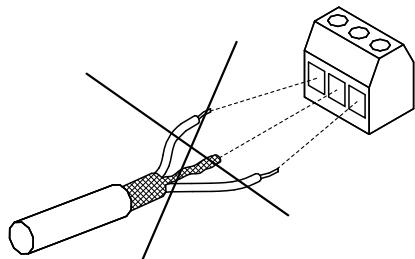

Fig. 44 Do not twist the screen ends
- Avoid terminating the screen by twisting the ends. See fig. 44. Use cable clamps or EMC screwed cable entries instead.